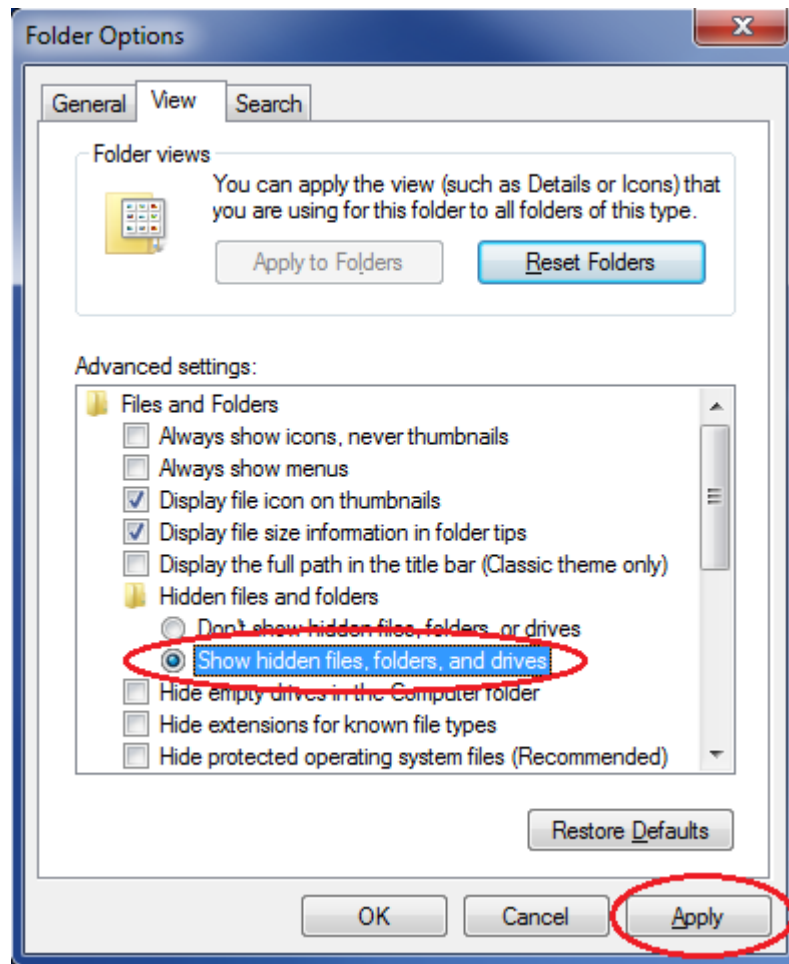

Figure 11 - Folder Options, Apply Button
5. Under "Advanced Settings:", click on "Show hidden files, folders, or drives" to enable the "Apply" button (see Figure 11).